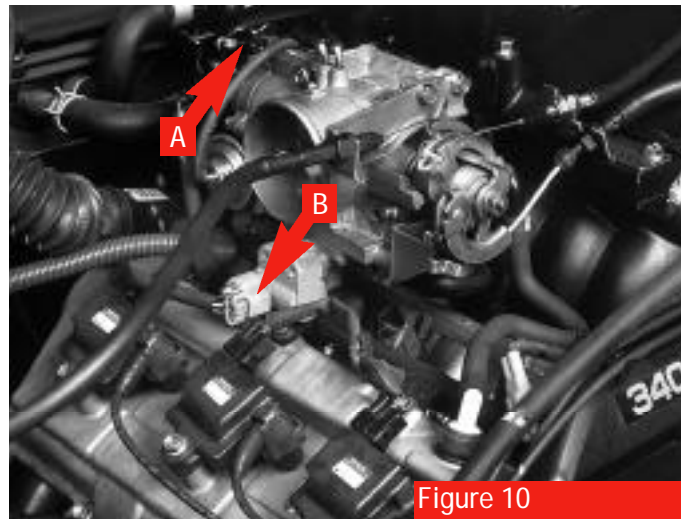

Figure 10
13. Unplug the throttle-position sensor connector (A) and the IAC (Idle Air Control) valve connector (B) (**see arrows, figure 10 and diagram on page 23**).